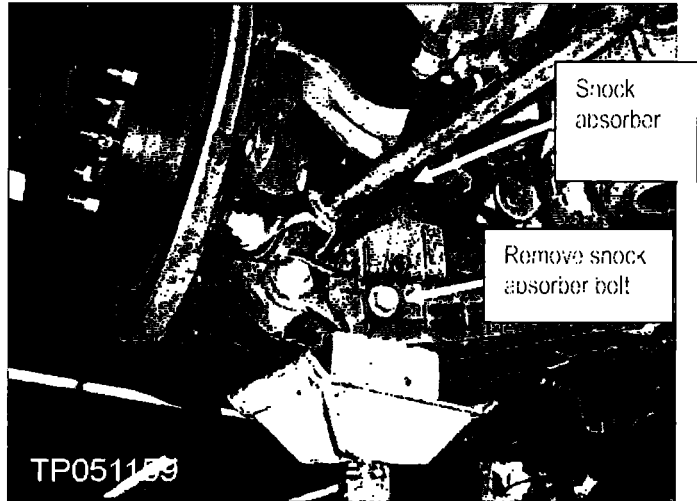

Figure 59
25. Now place a support jack under the front lower link. Then disconnect the shock absorber from the link (see Figure 59).